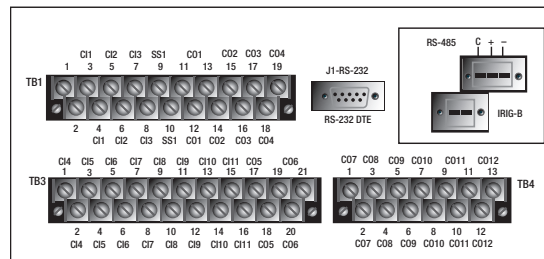

Figure 36. Back view of top half of Form 6-TS recloser control
1. Open the rear door of the Form 6-TS pole-mount control cabinet and locate terminals TM1 and TM2 on the power supply circuit board (Figure 36).